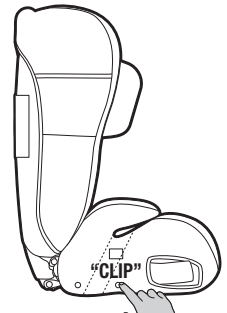

Figure 4
- Step 7:** Fold the armrest cover back over the armrest and secure the front press stud (the rear press stud can remain unclipped) (refer Figure 4).